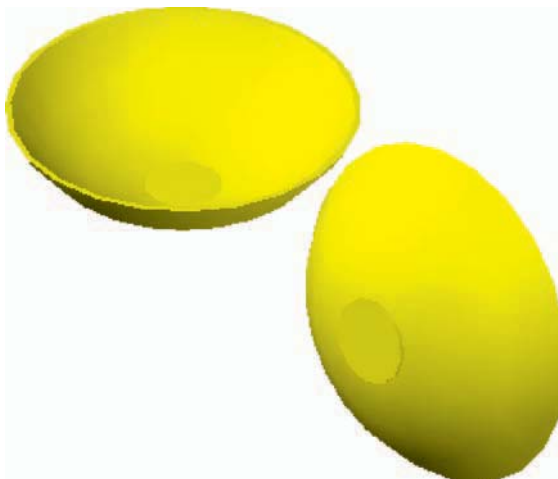

Fig. 14.19 Second example – 3D Mirror – the result in a front view
Second example – 3D Mirror (Fig. 14.19)
The result is shown in Fig. 14.19.
4. Shade using the **Home/View/Conceptual** visual style (Fig. 14.19).